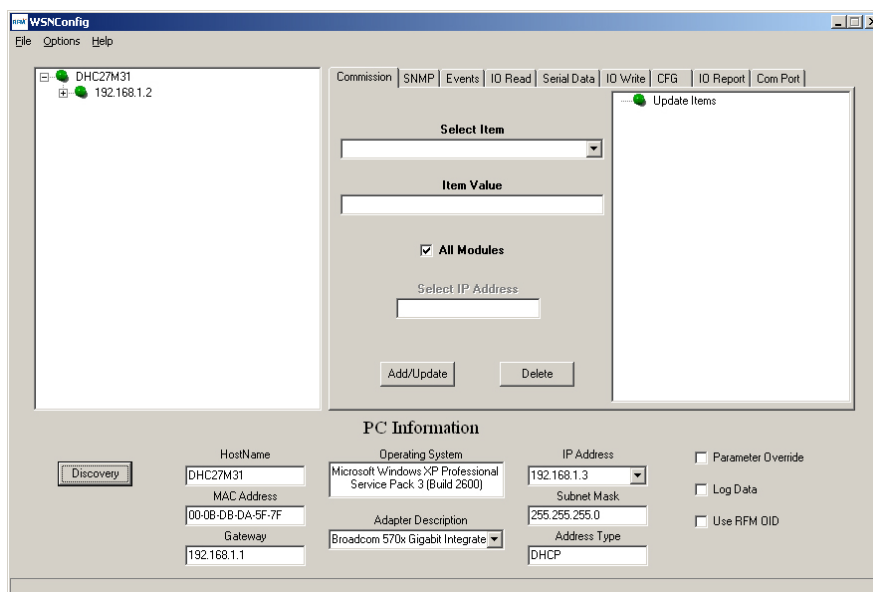

Figure 8.3.3
6. Start the WSNConfig.exe program. Click on the *Discovery* button. In a few moments the IP address of the WSN802G module will be displayed near the top of the left hand text box on the WSNConfig window, as shown in Figure 8.3.3. If the module IP address does not appear, see Section 8.4 below.